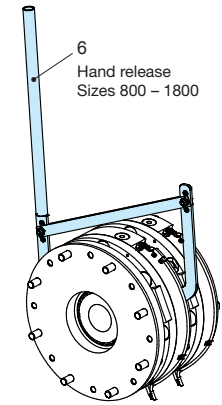

Fig. 4
A hand release (6) is installed manufacturer-side, dependent on Size and Type (see Type key on pages 7, 9 and Table 1). From Size 800, both circuits are released simultaneously with a lever (see Fig. 4).